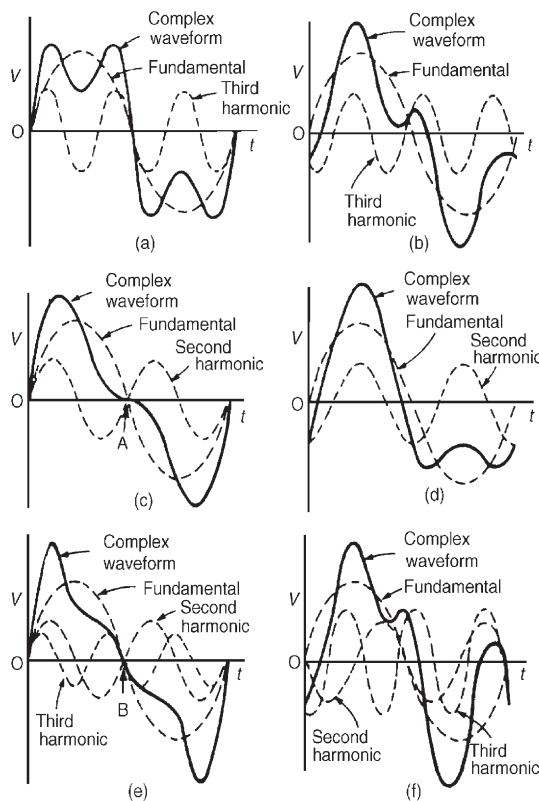

Figure 10.29
- (ii) A complex waveform comprising the sum of the fundamental and a third harmonic of about half the amplitude of the fundamental is shown in Fig. 10.29(a), both waveforms being initially in phase with each other. If further odd harmonic waveforms of the appropriate amplitudes are added, a good approximation to a square wave results. In Fig. 10.29(b), the third harmonic is shown having an initial phase displacement from the fundamental. The positive and negative half cycles of each of the complex waveforms shown in Figs 10.29(a) and (b) are identical in shape, and this is a feature of waveforms containing the fundamental and only odd harmonics.
about half the amplitude of the fundamental is shown in Fig. 10.29(c), each waveform being initially in phase with each other. If further even harmonics of appropriate amplitudes are added a good approximation to a triangular wave results. In Fig. 10.29(c), the negative cycle, if reversed, appears as a mirror image of the positive cycle about point A. In Fig. 10.29(d) the second harmonic is shown with an initial phase displacement from the fundamental and the positive and negative half cycles are dissimilar.
- (iv) A complex waveform comprising the sum of the fundamental, a second harmonic and a third harmonic is shown in Fig. 10.29(e), each waveform being initially 'in-phase'. The negative half cycle, if reversed, appears as a mirror image of the positive cycle about point B. In Fig. 10.29(f), a complex waveform comprising the sum of the fundamental, a second harmonic and a third harmonic are shown with initial phase displacement. The positive and negative half cycles are seen to be dissimilar.
The features mentioned relative to Figs 10.29(a) to (f) make it possible to recognize the harmonics present in a complex waveform displayed on a CRO.